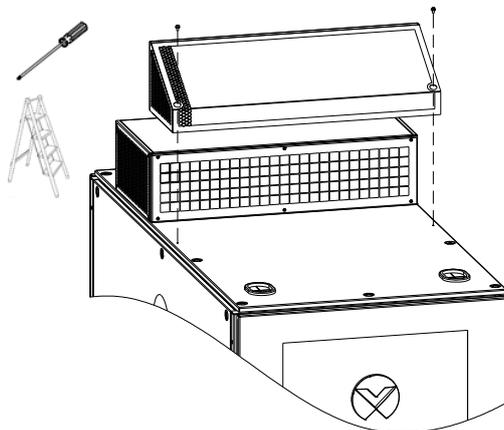

Figure 4-2 Remove Decorative Guard of ECO Fan Module
1) Remove the (2 pcs) fixing screws of the decorative guard and upwards remove the decorative guard clamped on the fan module, as shown in Figure 4-2.